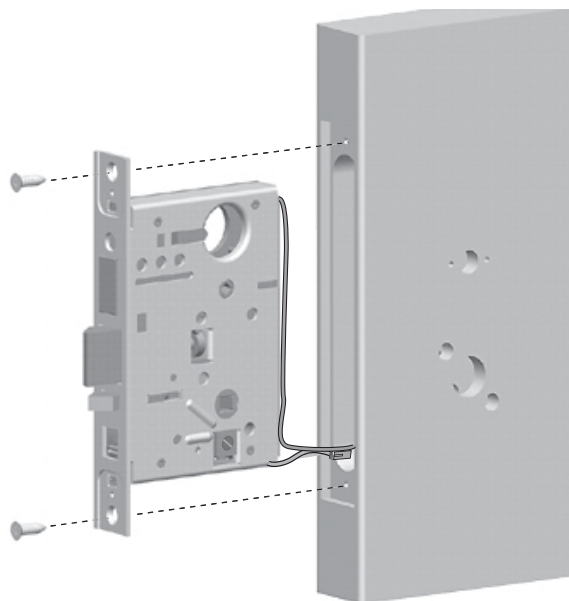

Figure 12 Installing the mortise case
- 4 Secure the mortise case with the case mounting screws (Figure 12).